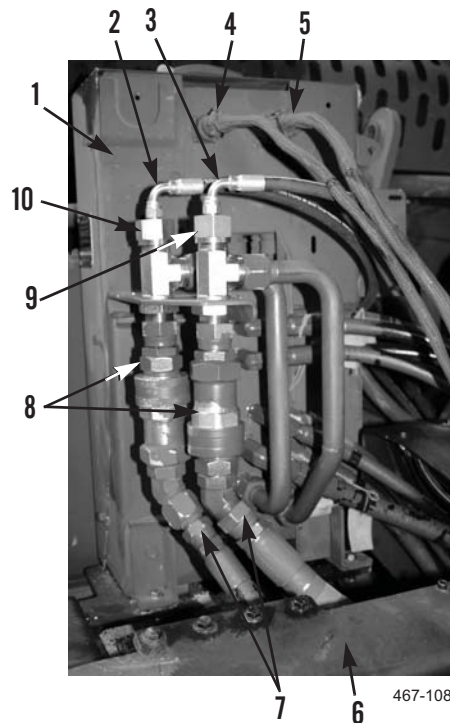

Figure 10. HEMTT M1120 Install Hydraulic Hoses and Wiring Harnesses.
23. Route pressure hose (Figure 10, Item 2) and relief hose (Figure 10, Item 3) to hydraulic control (Figure 10, Item 1).
24. Install pressure hose (Figure 10, Item 2) from stowage assembly (Figure 10, Item 6) on T-fitting (Figure 10, Item 10) on hydraulic control (Figure 10, Item 1).
25. Install relief hose (Figure 10, Item 3) from stowage assembly (Figure 10, Item 6) on T-fitting (Figure 10, Item 9) on hydraulic control (Figure 10, Item 1).
26. Route male and female quick disconnect hoses (Figure 10, Item 7) from under stowage assembly (Figure 10, Item 6) to hydraulic control (Figure 10, Item 1) and install on hydraulic control quick disconnect fittings (Figure 10, Item 8).
27. Route wiring harness (Figure 10, Item 4) to hydraulic control (Figure 10, Item 1) and install as marked during removal.
28. Route wiring harness (Figure 10, Item 5) to hydraulic control (Figure 10, Item 1) and install as marked during removal.